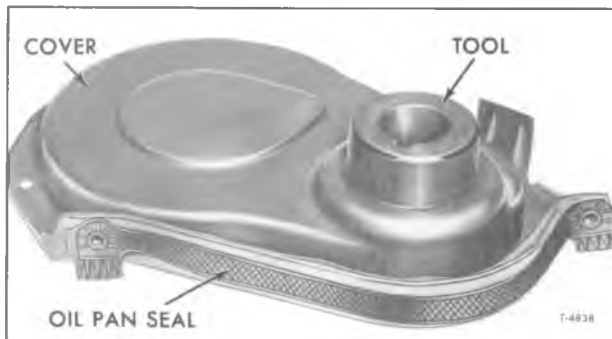

Figure 27—Centering Tool in Engine Cover
2. Install centering Tool (J-0966) or centering Tool (J-21742) in crankcase front cover seal (fig. 27).
4. With centering Tool (J-0966) in place (fig. 27), position cover on front of cylinder block, install attaching bolts, and tighten firmly (6½ foot-pounds torque). Install two oil pan bolts, then remove centering tool.